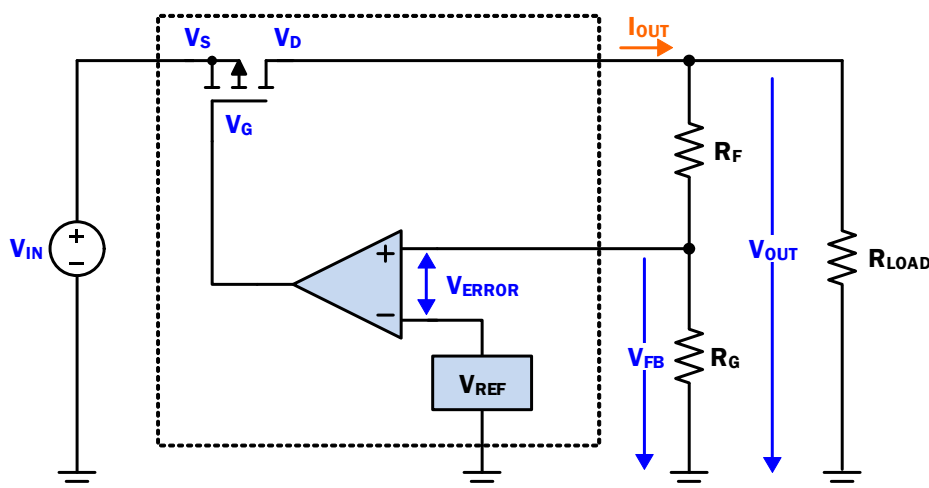

Figure 121. Simple PMOS LDO Regulator Block Diagram
Like the majority of LDOs with a PMOS pass transistor, the RAA214023 DC output voltage (V_{OUT}) regulation can be modeled with a voltage reference (V_{REF}), PMOS pass-transistor, error amplifier and feedback (FB) resistors as shown in Figure 121.